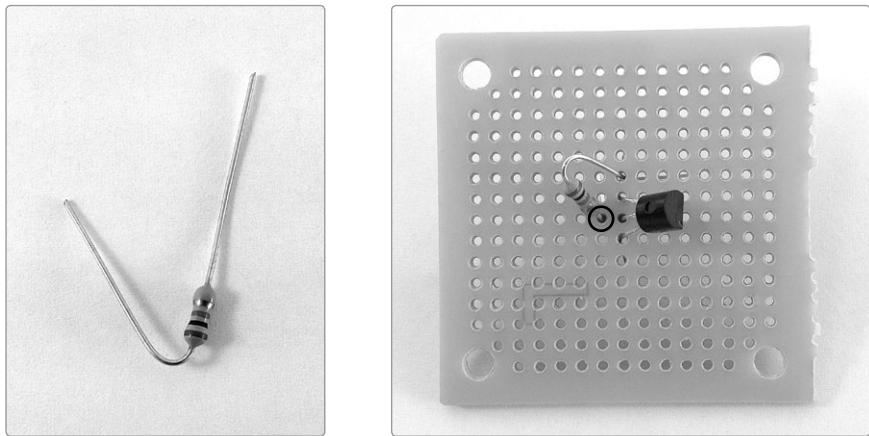

FIGURE 12-8: *The first 1M ohm resistor is in place, and the solder point is circled.*
Step 11 Bend one of your 1M ohm resistors (brown-black-green stripes) into a *V* shape, as shown in Figure 12-8 (left). Then, slide one lead into the hole immediately to the left of the transistor's middle leg and the other lead into the first hole immediately above the transistor's upper leg (also called its *collector*), as shown in Figure 12-8 (right). Once you insert the resistor, bend its upper leg to hold it in place and solder the leg closest to the transistor's middle leg to its pad.